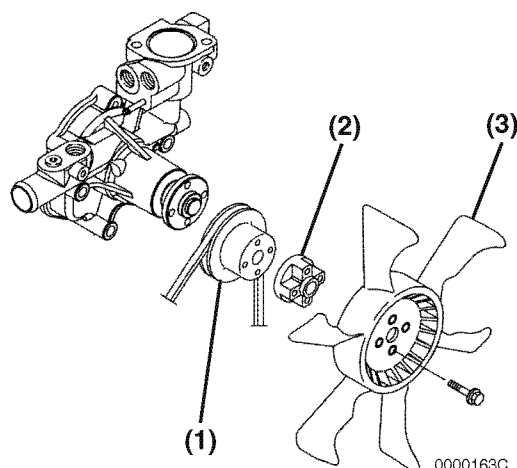

Figure 9-23
Remove the engine cooling fan guard (if equipped), engine cooling fan (**Figure 9-23, (3)**), spacer (**Figure 9-23, (2)**), engine coolant pump V-pulley (**Figure 9-23, (1)**) and V-belt.